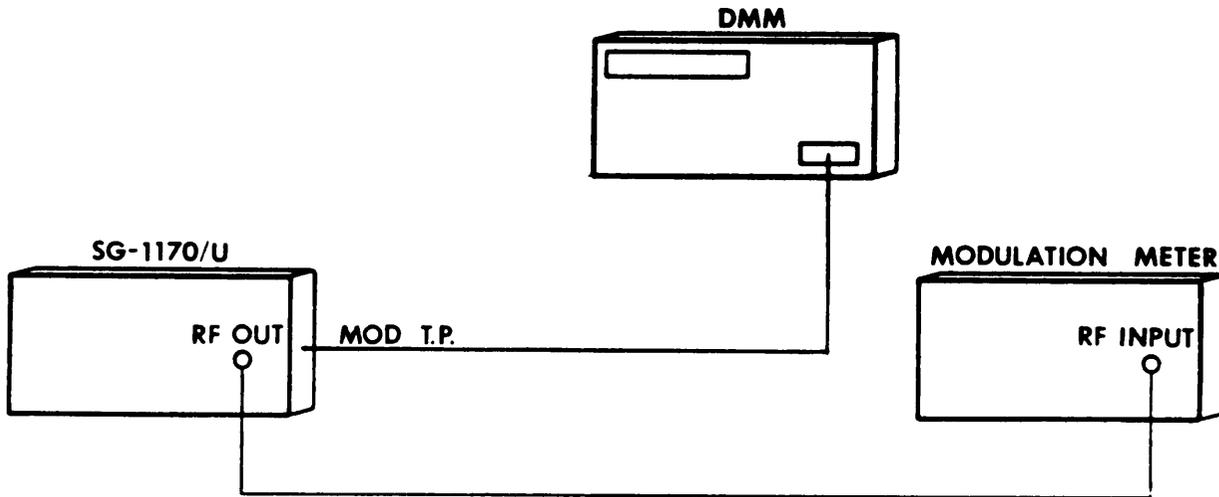

Figure 4-3. Set-up for Percent AM Accuracy Test
2. Connect the equipment as shown in Figure 4-3. Connect the center conductor of the cable between the high terminal of the digital multimeter and the MOD TP (pin 36 of rear-panel PROGRAMMING jack J101). Connect the cable shield between the low terminal of the digital multimeter and ground (pin 25 of J101).